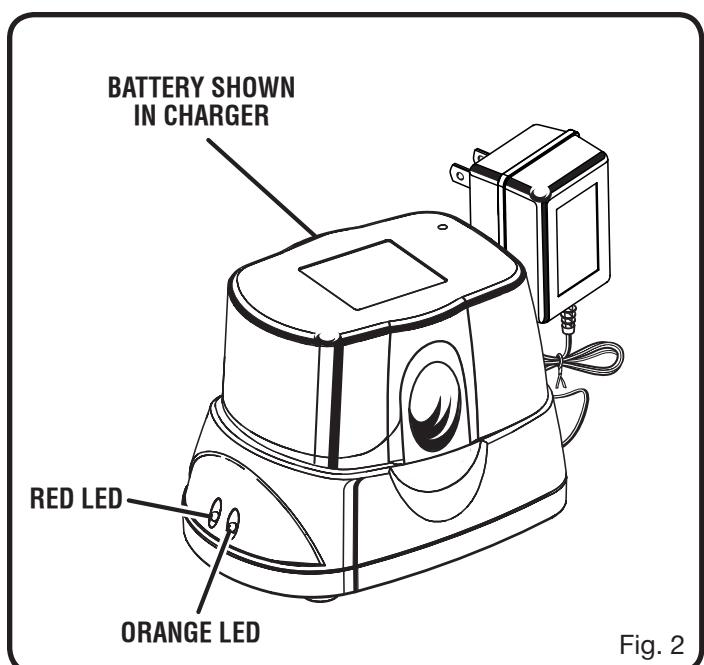

Fig. 2
- Place battery pack in charging stand. Align raised rib on battery pack with groove in charging stand. *See Figure 2.*